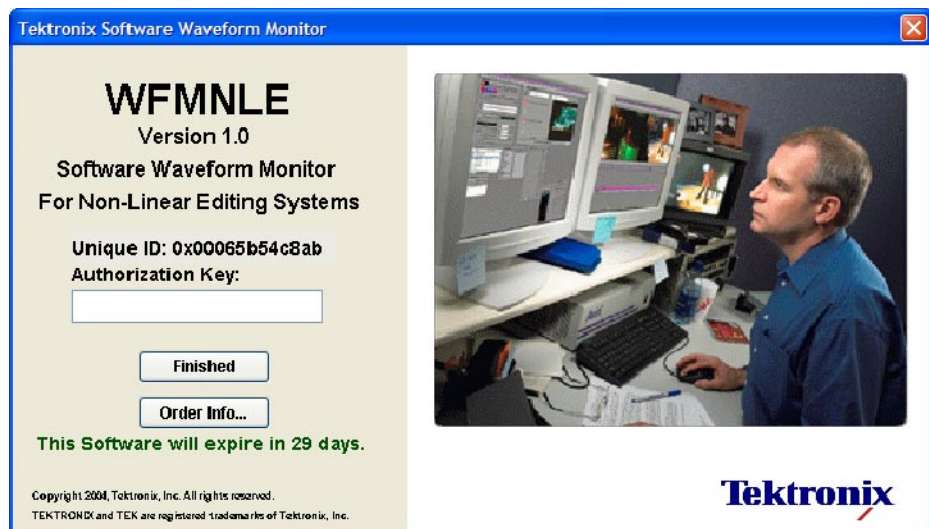

Figure 1: The WFMNLE software authorization window
During the free 60-day trial period, the authorization window shown in Figure 1 appears when you start the WFMNLE application. This window lists the number of days remaining before the WFMNLE software expires.
3. After you receive the authorization key, enter the number into the entry box in the WFMNLE authorization window (see Figure 1). Be careful since the authorization key number is case sensitive. The authorization window will no longer appear after you license the WFMNLE software.